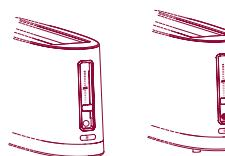

Fig. 8
- 4 Push the DEFROST button : the light will turn on (fig. 8).